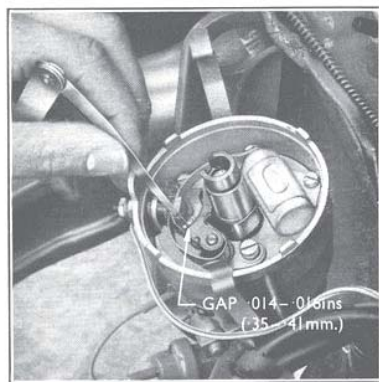

Fig. 13.
4. Check the gap with feeler blades (Fig. 13) and adjust if necessary to 0.014–0.016 in. (0.35–0.41 mm.) by loosening the screws of the fixed contact plate and moving the fixed contact as necessary. Re-tighten the screws securely after adjustment and re-check the gap.